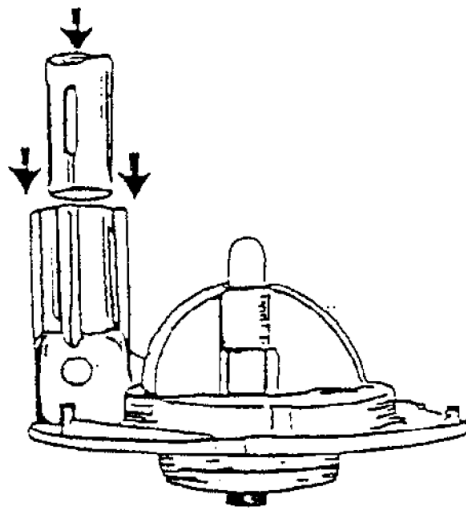

Figure 4.
2. Lock the spray tube into the pump cover. Use warm water on pump cover to ease insertion or removal of spray tube. (See Figure 4.)